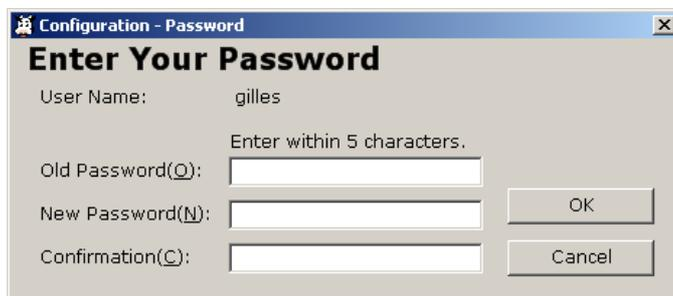

Fig. 11.3-1 : Password
(1) Click on Password in the Configuration menu. The 'Password' screen is opened (Fig. 11.3-1).